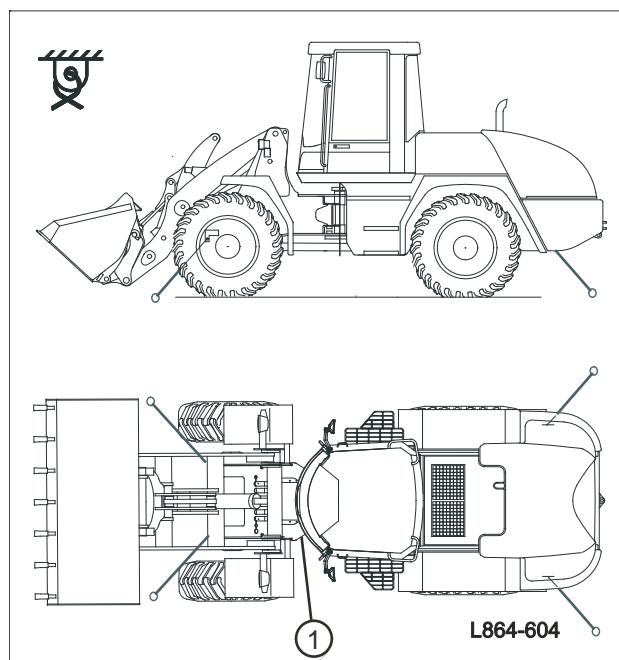

Fig. 34 Lashing for transport
- Attach the machine at the points illustrated (Fig. 34) in the correct manner.